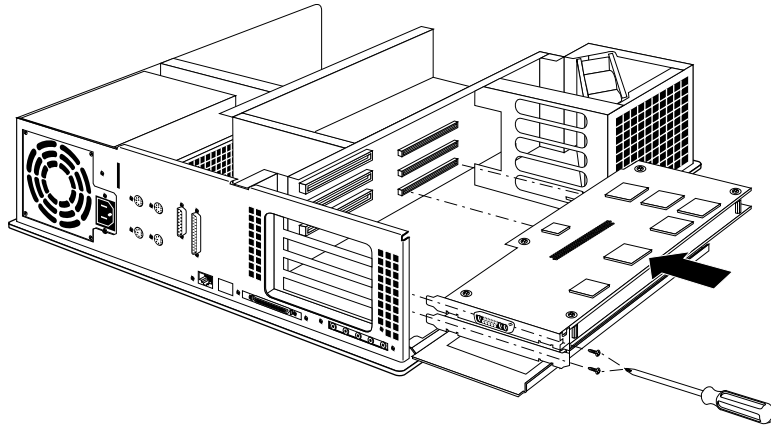

Figure 2-25 Replacing the Graphics Board Set
- Align the metal extensions on the left of the board set with the slots on the chassis. At the same time align the right edge of the board set with the metal grooves on the right of the chassis, as shown in Figure 2-25.
Note: Figure 2-25 shows an XZ graphics board set. If you have an Extreme graphics board set, there will be three screws to insert and tighten.